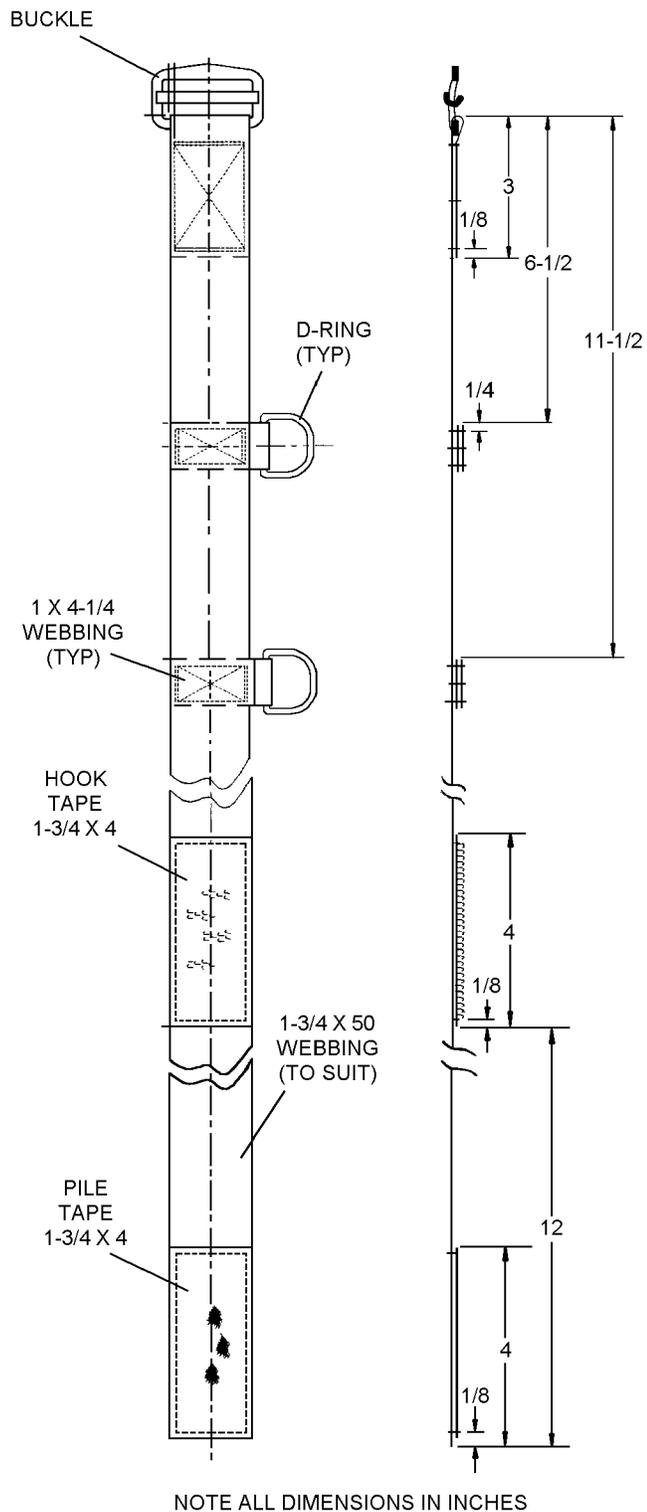

Figure 9-51. SAR Belt Assembly – Flat and Edge View
(HEED) with the LPU-21/P Life Preserver are given here. In addition, optional instructions to fabricate a HEED Holster Belt (figure 9-51) for use by Search and Rescue (SAR) swimmers are also provided. Proceed as follows:
1. Cut 50 inch of 1 3/4-inch webbing for SAR belt for HEED Holster (figure 9-51). Remove end of webbing through free end of adjustable buckle. Fold back 3 inches and sew with 2 1/4 x 1 1/2-inch crossbox stitch.
3. Cut 4 1/2 inches of 1-inch webbing. Reeve D-ring onto webbing and fold webbing in half. Position webbing on top of belt, with the cut ends of webbing even with top edge of belt and the D-ring at the bottom. Position right hand edge of folded webbing at the 6 1/2 inch mark (figure 9-51). Ensure webbing and the D-ring are perpendicular. Sew 1/8 inch in all around with 3/4 x 1 1/2-inch crossbox stitch and backstitch.